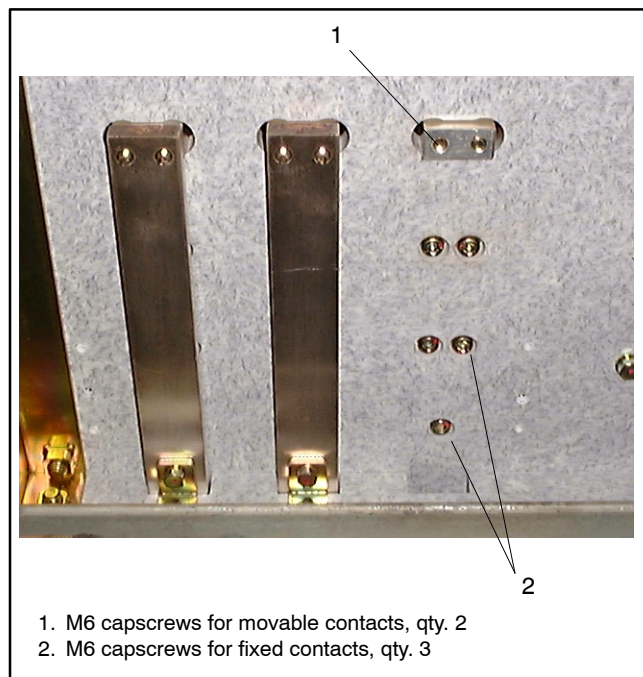

Figure 8-45 Loosen Screws
2. Loosen the M6 capscrews (qty. 2) to replace the movable contacts. See Figure 8-45.
5. To replace the fixed contacts, loosen the M6 capscrews (qty. 3). See Figure 8-45.